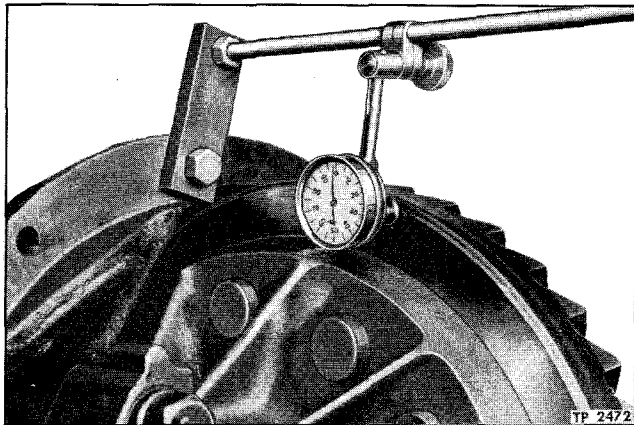

Figure 6—Measuring Drive Gear Run-Out
5. Install washers and nuts on bearing cap studs, tighten nuts snugly, then back nuts off until bearing adjusting rings (38) can be turned.
6. Tighten adjusting rings (38), alternately, until bearings (39) are seated in bearing cups (40). Revolve differential assembly after each tightening to keep bearing cups straight in bores.
7. After side bearings (39) are firmly seated, tighten left-hand adjusting ring one or two notches, then check drive gear run-out in manner shown in figure 6. Run-out should be within limits given in "Specifications" at end of this section.